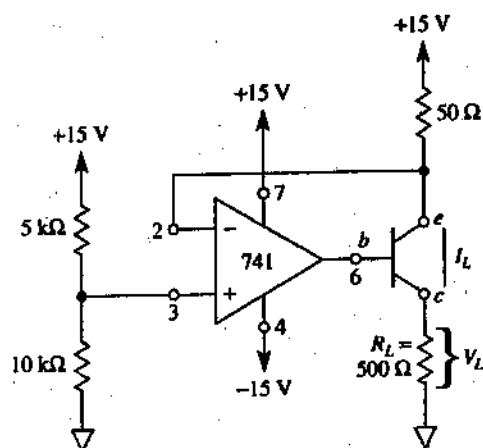

FIGURE PS-7
- 5-7. For the constant-current source shown in Fig. PS-7, (a) draw the current direction, the emitter arrow, and state if the transistor is npn or pnp; (b) find  $I$ ; (c) find  $V_L$ .